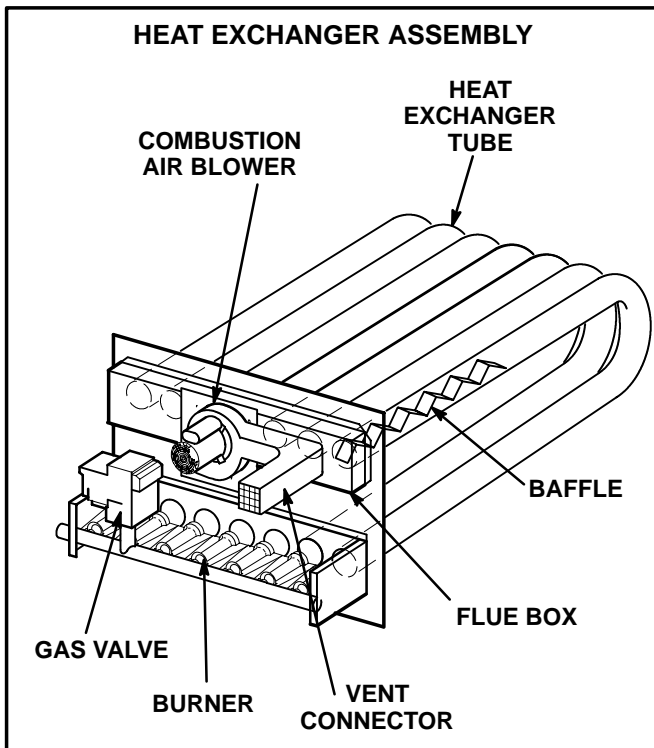

FIGURE 16
- 3- Remove and retain screws securing combustion air blower to flue box. Remove and retain two screws from bracket supporting vent connector. See figure 16.